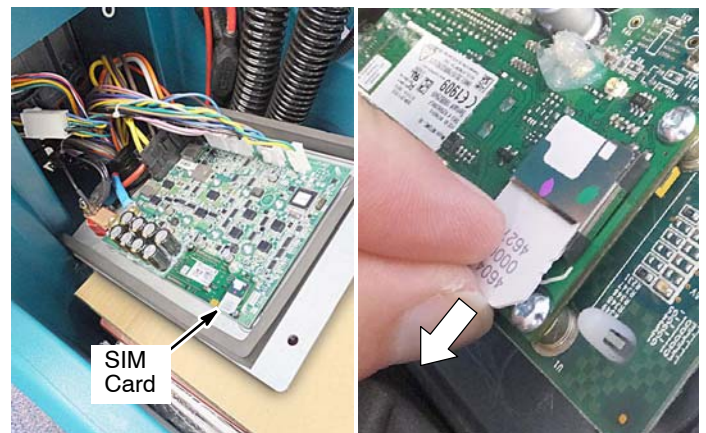

Fig. 4
6. Remove the existing SIM card from the old control board and save for new board (Figure 4).